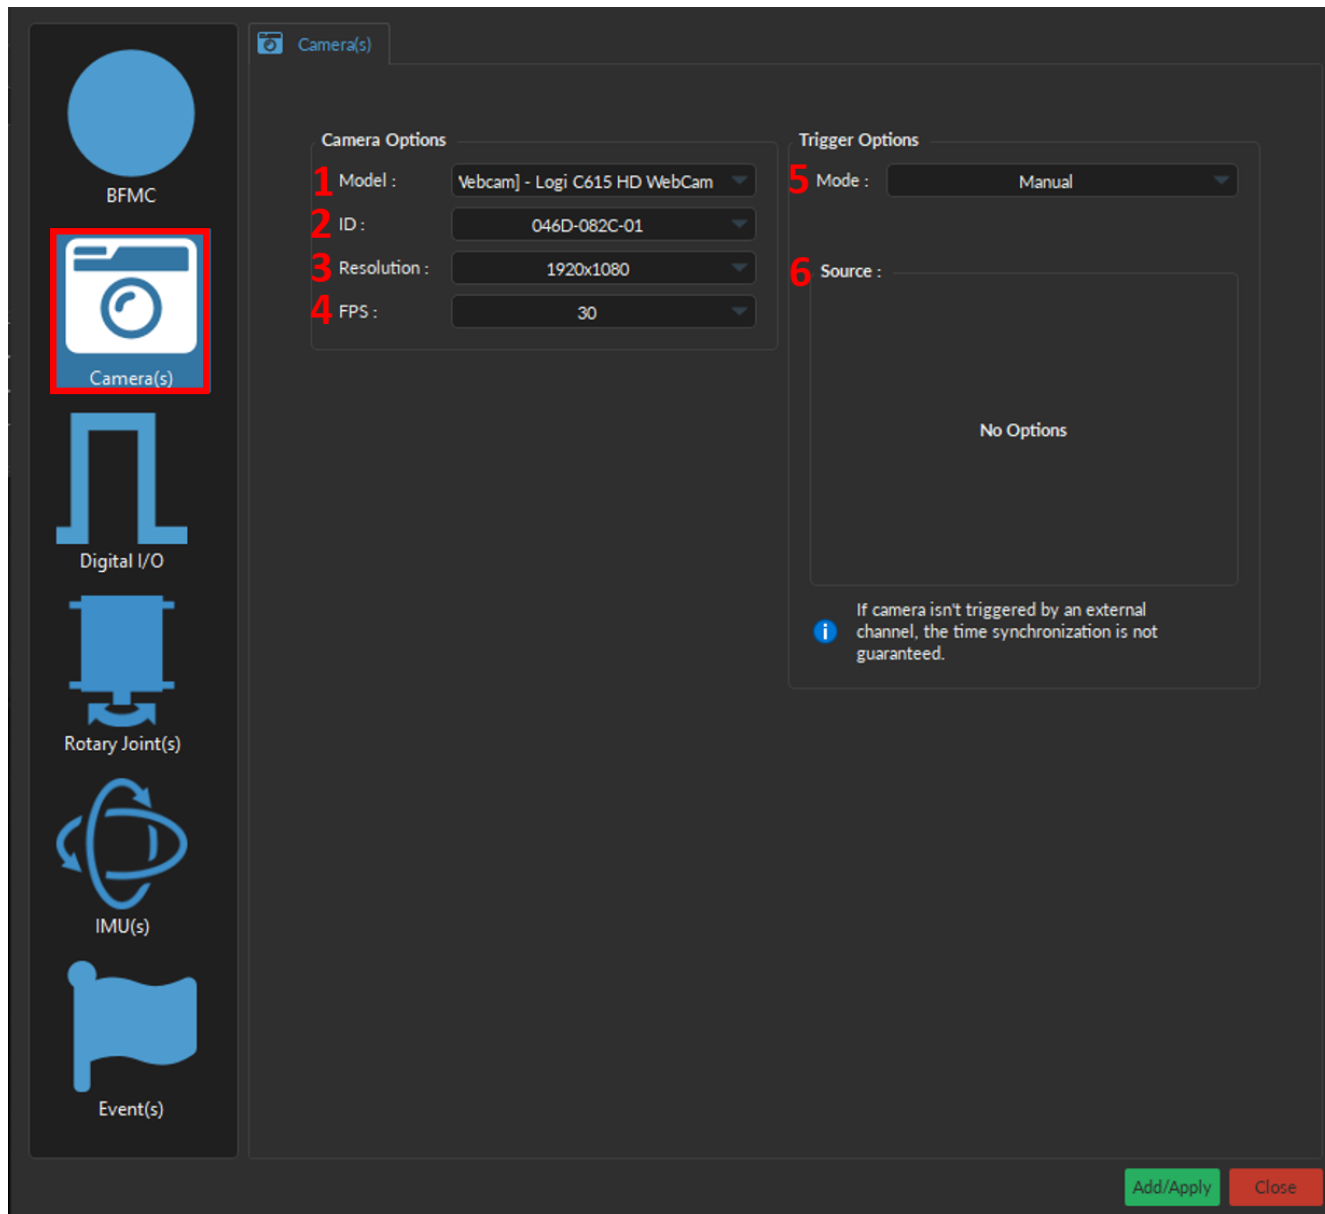
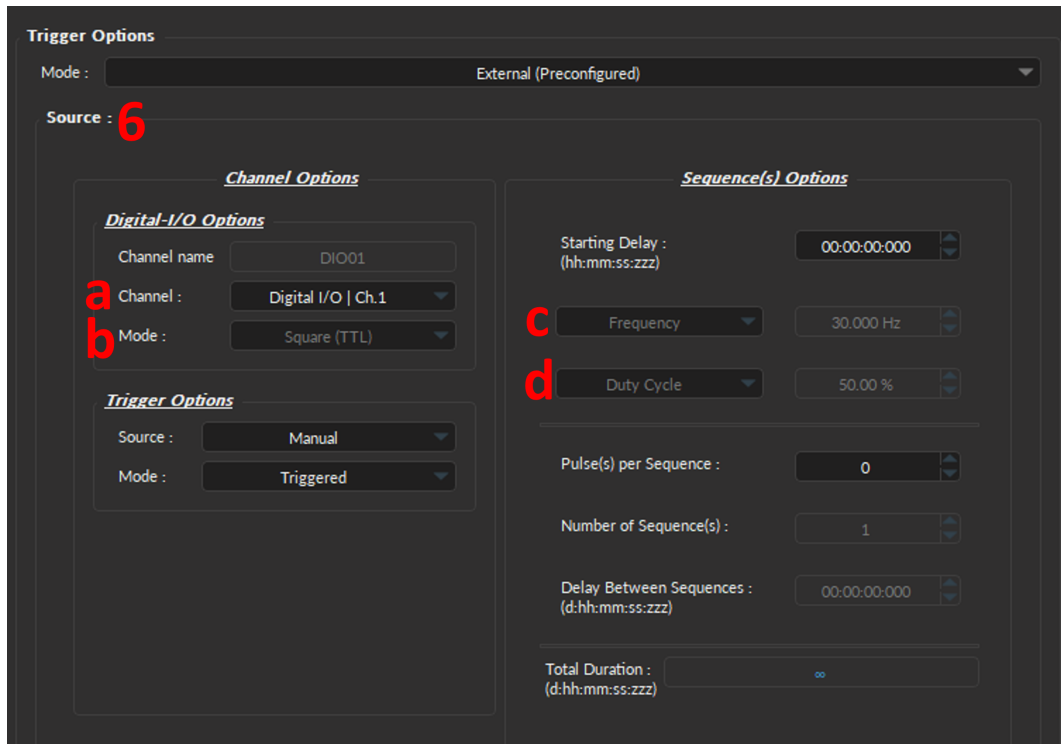

Figure 15.31: Channel(s) configuration window, Camera(s)
Figure 15.33: Channel(s) configuration window, Camera - External (Preconfigured)
1. The **Model** (Fig. 15.31, 1) allows you to select the camera of choice based on the type of camera.
2. **ID** drop-down list (Fig. 15.31, 2) is used to select a camera based on its unique ID. The ID is beneficial when multiple cameras of the same model are required for the experiment.
- The **Resolution** (Fig. 15.31, 3) is used to set the resolution of the image. The large the number of pixels used for width x height, the better the resolution. Currently, image size can ranges between 160x120 to 1920x1080 pixels.
- The **FPS** (Fig. 15.31, 4) is used to specify the frame rate of the camera (i.e. the number of images displayed per second). FPS can be any value between 5 to 30 for web cameras and up to 60 FPS for the *Doric Behavior Camera*.
- The **Mode** (Fig. 15.31, 5) sets the type of trigger that will control the camera. Depending on the type of camera, at most three modes are available:
- The **Source** (Fig. 15.31, 6 & Fig. 15.33) is only used for the **External (Preconfigured)** mode, and displays the **Digital I/O** channel with the preconfigured parameters that will be created at the same time as the **Camera Channel** (Fig. 15.33). For a detailed description of each Digital I/O parameter see Section 15.4.2. Briefly, key parameters include:
- a) The **Channel** (Fig. 15.33, a) corresponds to the physical Digital I/O channel number on the BBC300 that is connected to the trigger cable of the *Doric Behavior Camera*.
- b) The **Mode** (Fig. 15.33, b) is by default set to the *Square (TTL)* which provides the external trigger signal to the camera. This parameter cannot be changed.
- c) The **Frequency** (Fig. 15.33, c) corresponds to the **FPS** set in the **Camera Options**. Changing the **FPS** will automatically change the **Frequency** in the **Sequence(s) Options**.
- d) The **Duty Cycle** (Fig. 15.33, d) is by default 50%. The frame will be taken at the start of each square pulse.